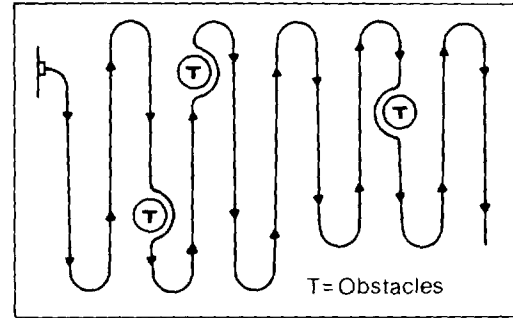

Figure 4
1. Begin mowing near the electrical outlet and work outward (Fig. 4). Mow back and forth.
**IMPORTANT:** By following the suggested mowing pattern (Fig. 4), the extension cord will not sustain unnecessary wear. Do not allow extension cord to wrap around trees, shrubs or other obstacles.